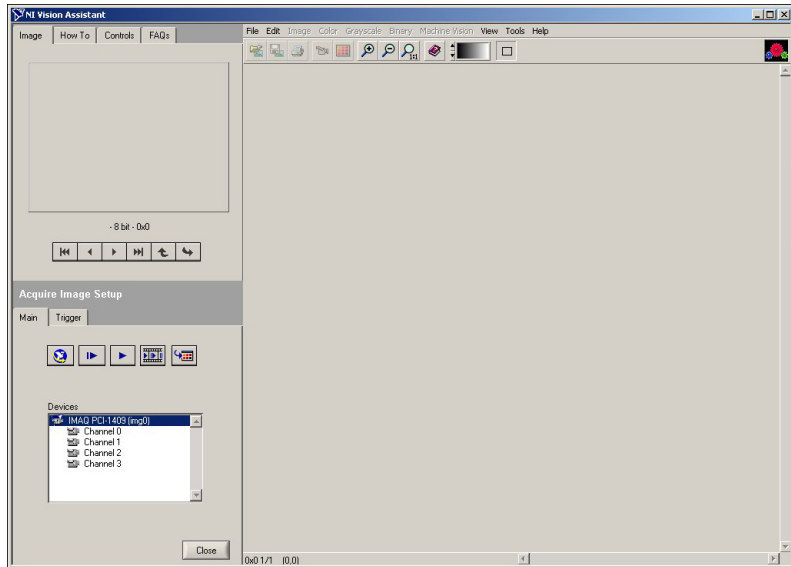

Figure 2-6. IMAQ Devices and Channels
2. Click **Acquire Image**. The Parameter window displays the IMAQ devices and channels installed on the computer. Figure 2-6 shows that the IMAQ PCI-1409 is installed.